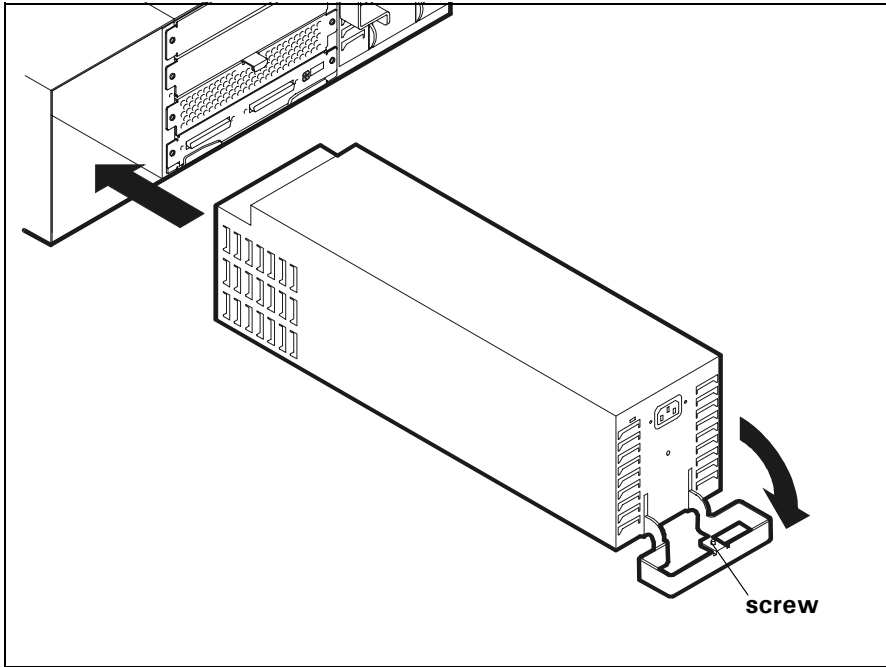

Figure 65 Installing a Second Power Supply
2. With the handle down and facing you, slide the power supply into the empty slot (Figure 65). You will feel the resistance of the backplane when all but $\frac{3}{8}$ inch of the power supply has been inserted.